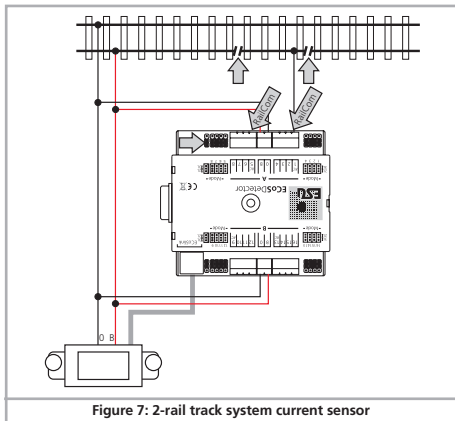

Figure 7: 2-rail track system current sensor
- Connect the inputs "0" and "B" of the ECoSDetector with the appropriate booster output. In the example in figure 7 both feedback groups "A" and "B" are supplied by the same booster. Therefore the terminals "0" and "B" on both sides of the ECoSDetector must be connected with each other. If you use a separate ECoS-Boost for group "B" (feedback inputs 9 through 16) then the module must be wired as described in chapter 6.4.
Please make sure that you always cut the "correct" track and thus the correct pole of the digital track voltage when isolating the track sectors. In figure 7 it is shown that the conductor "B" (red) must be isolated. This must be done in the same way for the entire layout.